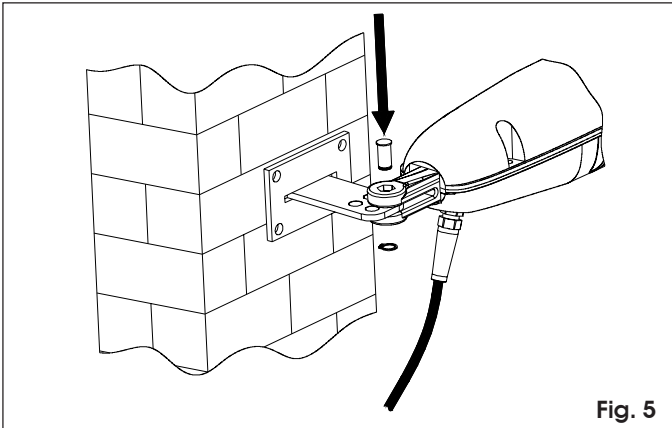

Fig. 5
- 2) Secure the articulated fitting of the operator to the rear bracket by means of the supplied pins (Fig. 5).